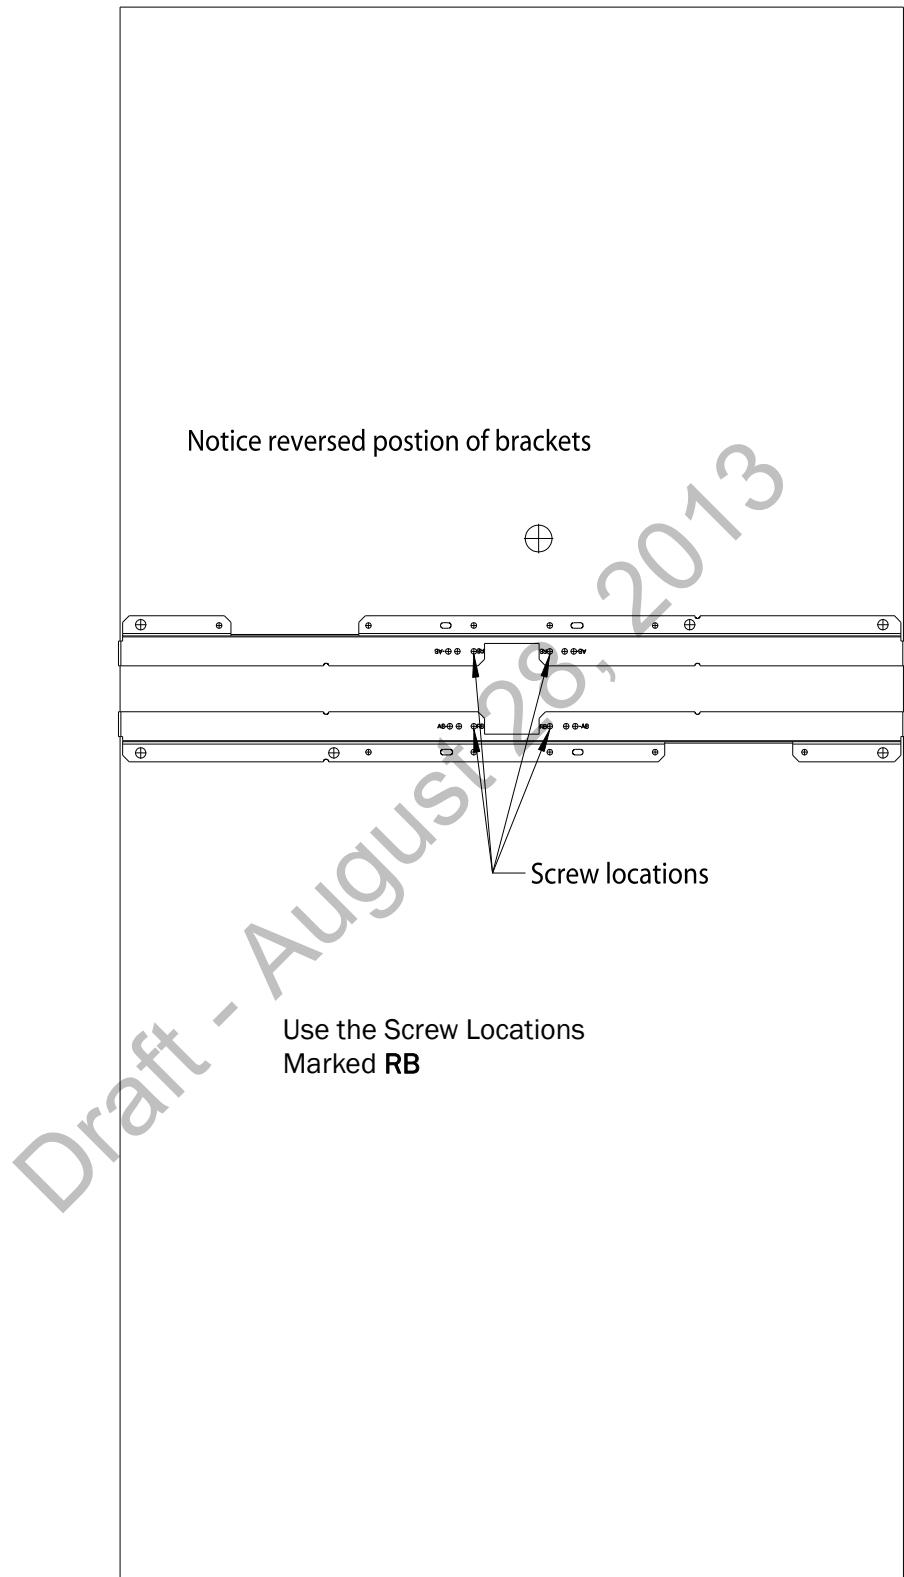

Figure 2-22: RA Below Ceiling Tile Mounting Rail Screw Locations
4. Mark the location of the "RB" screw holes in the mounting rails on the ceiling tile where the holes will be drilled through the tile as shown in Figure 2-22. Drill four 0.25-inch (6 mm) diameter holes in the ceiling tile.
8. Insert the four (4) M3-5 x 30 lobe screws into the RA mounting rail holes, through the ceiling tile, through the provided plastic spacers, and into the mating holes in the back of the wall plate.